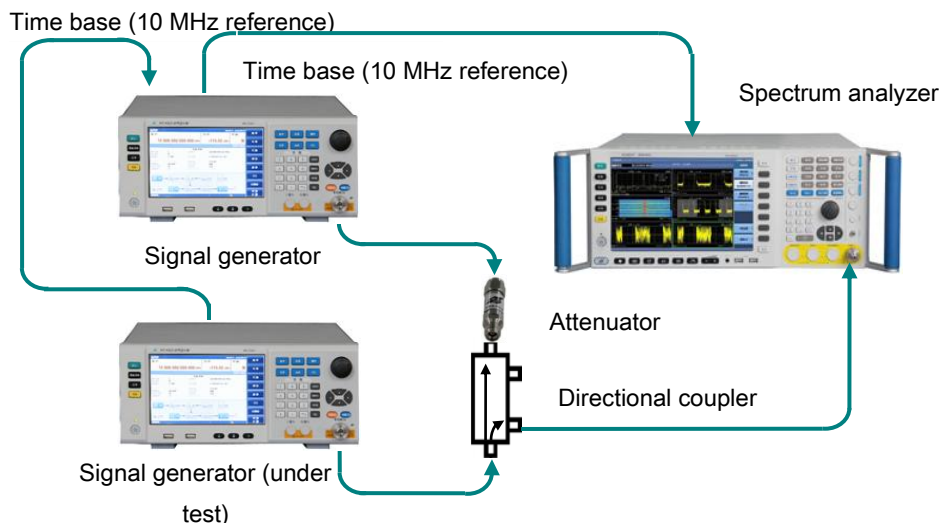

Fig. 8.10 Connection diagram for test on output port source standing-wave ratio
1) Connect the test equipment as shown in Figure 8.10. Set the signal generator under test to the status of internal fixed-amplitude continuous wave output, with frequency of 2GHz and output amplitude of 0dBm.